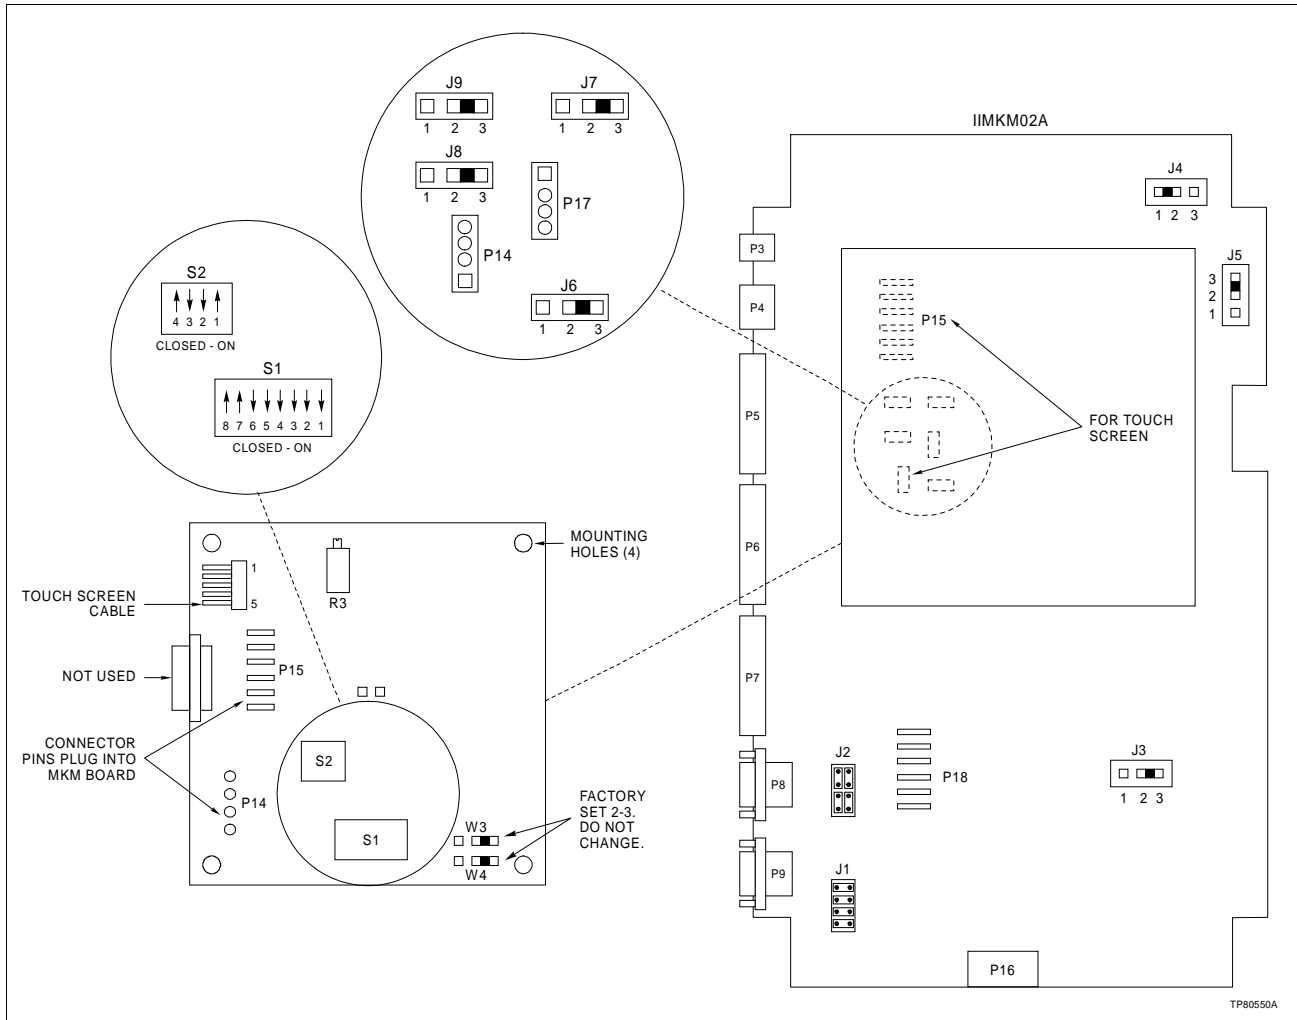

Figure 3-23. Touch Screen Switch and Jumper Settings
Jumpers J6 and J8 on the IIMKM02A keyboard module control the touch screen option (Figure 3-23). Switch S1 and S2 on the touch screen controller board must also be set.
3. Set switches S1 and S2 on the touch screen controller board. See Figure 3-23 for settings.